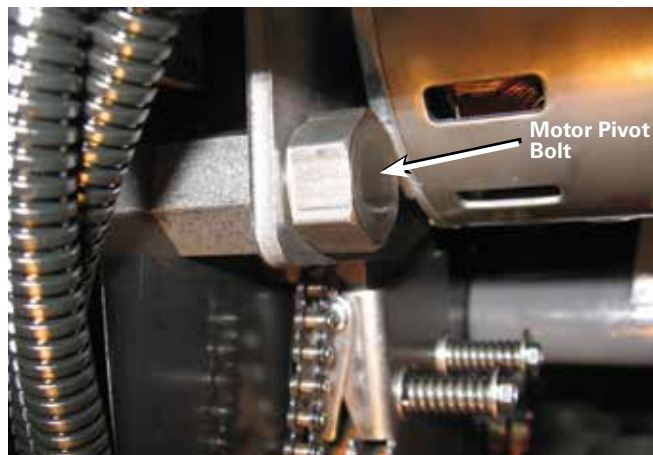
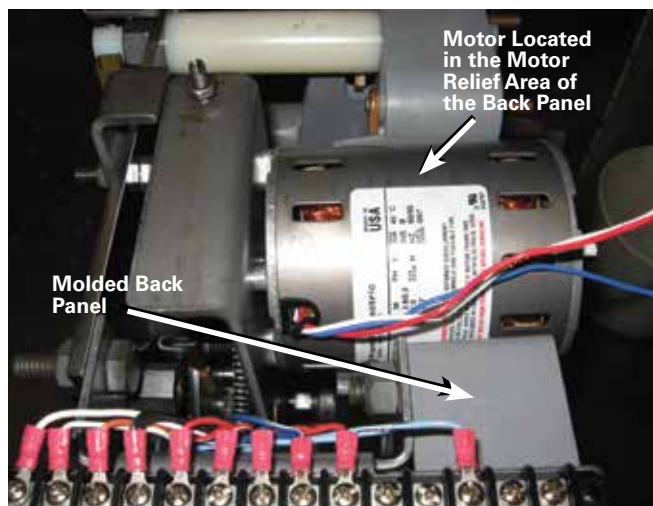

Figure 110. Motor pivot bolt design.
Figure 111. Removal of the motor.
7. If the tap-changer has a motor pivot bolt design as shown in Figure 110, remove the motor pivot bolt with a 3/4" socket on a ratchet; make sure the fiber washer does not fall off the motor pivot bolt and into the tank. Set the motor in the motor relief area of the molded back panel. Refer to Figure 111.